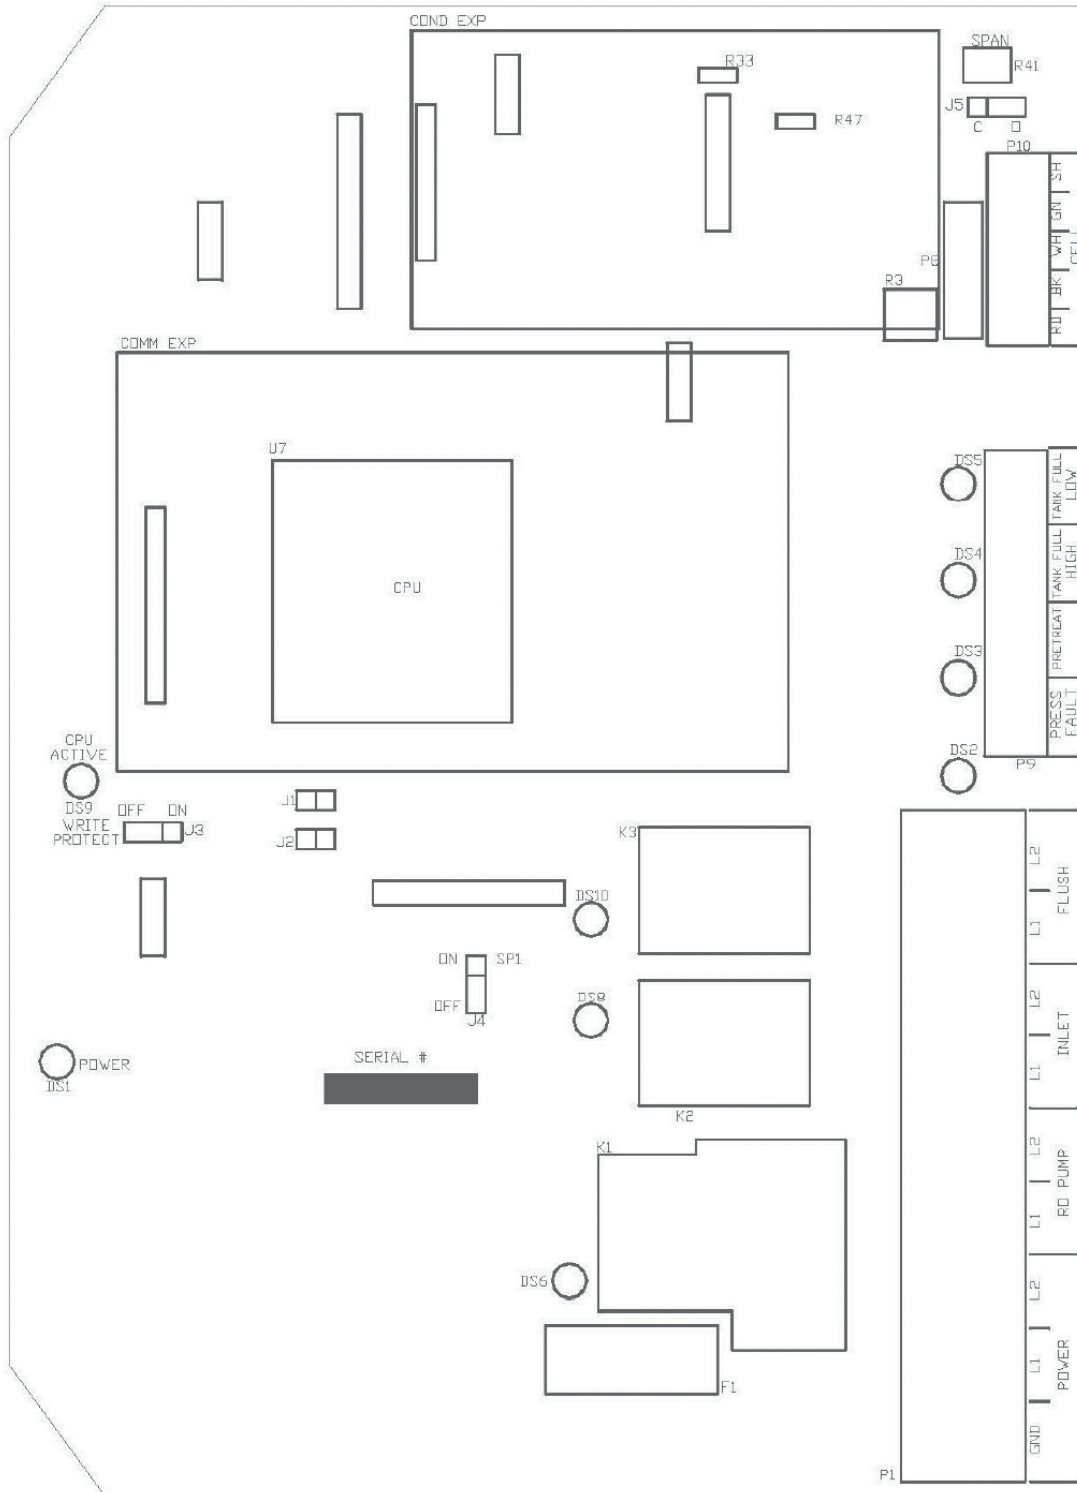
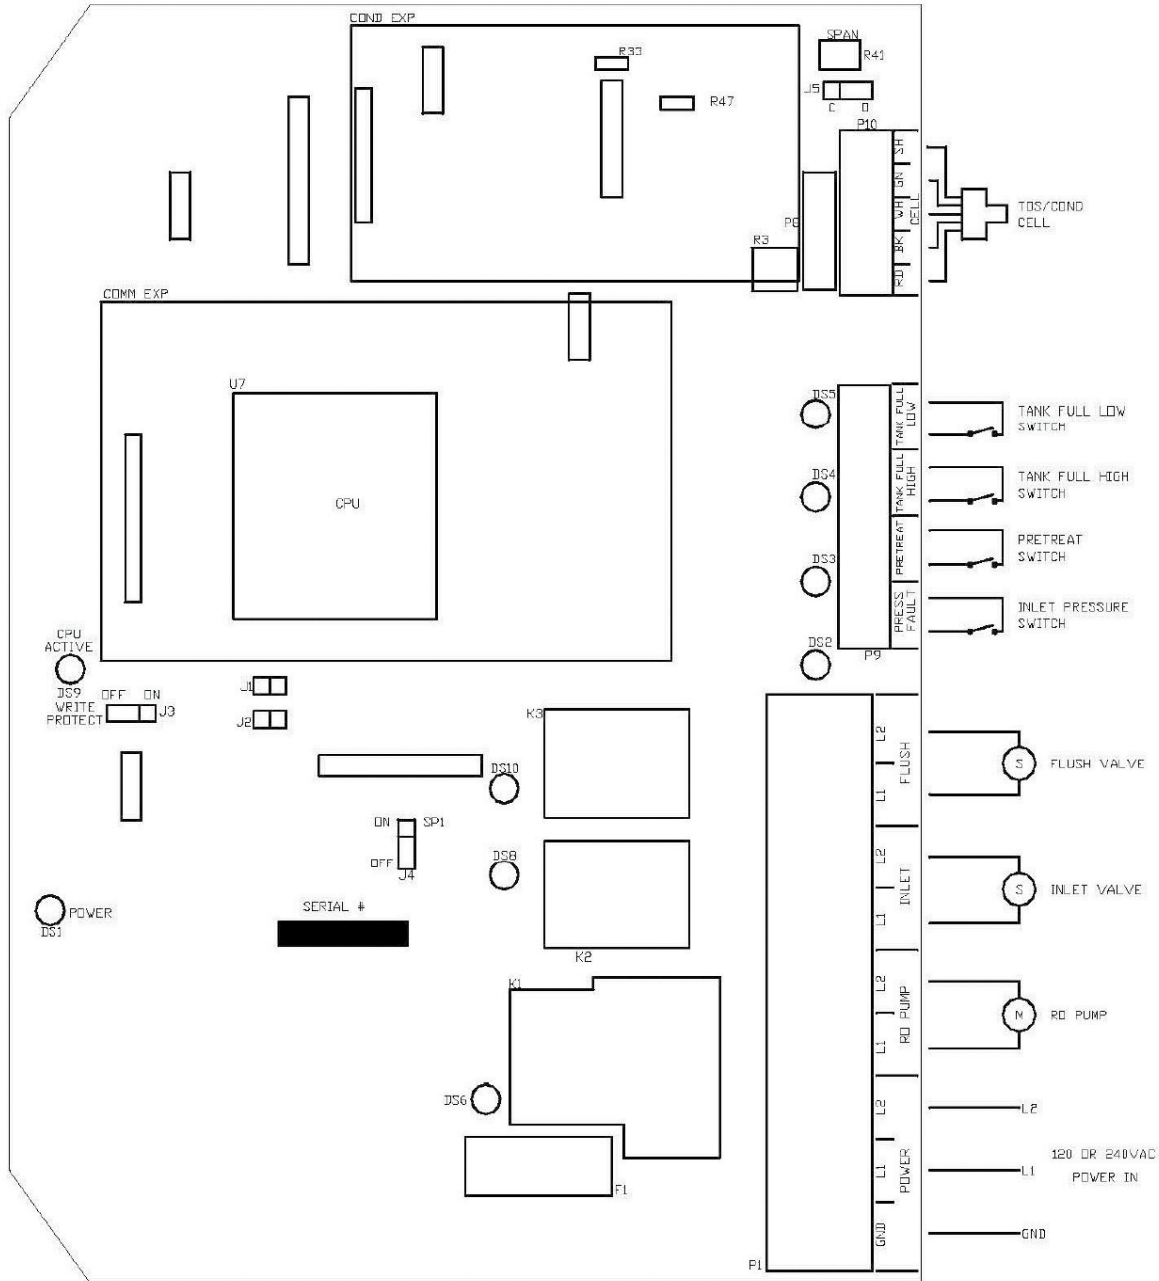

Figure 2.
Figure 3.
Refer to Figure 2 for the location of all terminal strips and connectors. Figure 2 also shows all jumper and adjustment locations. Figure 3 shows a sample wiring diagram.
Refer to Figure 2 and Figure 3 for the terminal strip locations. AC power for the unit is connected to terminal strip P1. Connect the ground wire of the AC power to the terminal labeled GND. For AC power with a neutral and hot wire, the hot wire connects to L1 and the neutral wire connects to L2. For AC power with two hot wires, either wire can connect to L1 and L2. On AC power with two hot wires, the wire jumper between P6 and P7 should be removed and a fuse (GMA 1/4A) installed in F2.
1. Refer to Figure 1 for the location of the keys used to display or change the Setpoints and Figure 2 for the location of the write protect jumper, J3. For the unit to be able to accept a change in a Setpoint, the shorting jumper must be in the off position (center and left pins).